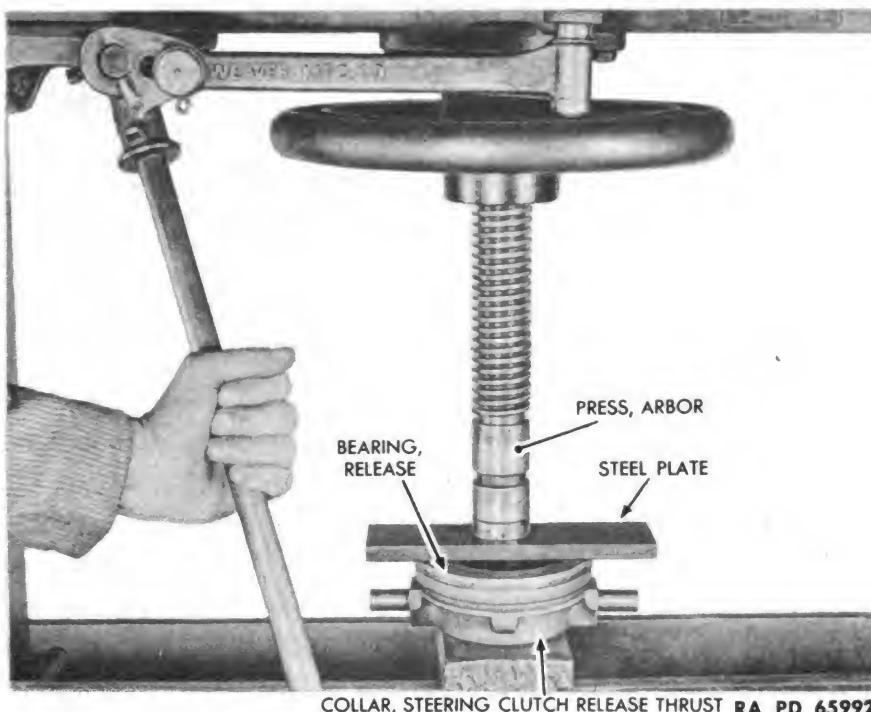

Figure 109 — Release Bearing in Release Collar Installation
(7) INSTALL RELEASE COLLAR (fig. 109).